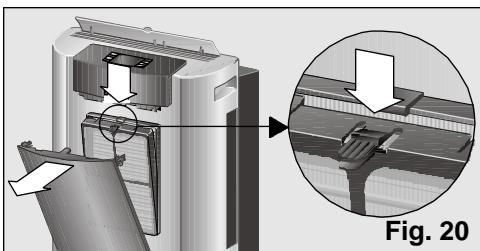

Fig. 20
All models are fitted with a basic filter which needs to be cleaned regularly, Fig. 19. The filter is accessed by pressing the tab at the top and removing it from its housing, Fig. 20. The filter is cleaned under a cold tap, dried and replaced.
- Remove the basic filter from the appliance, **Fig. 20**.